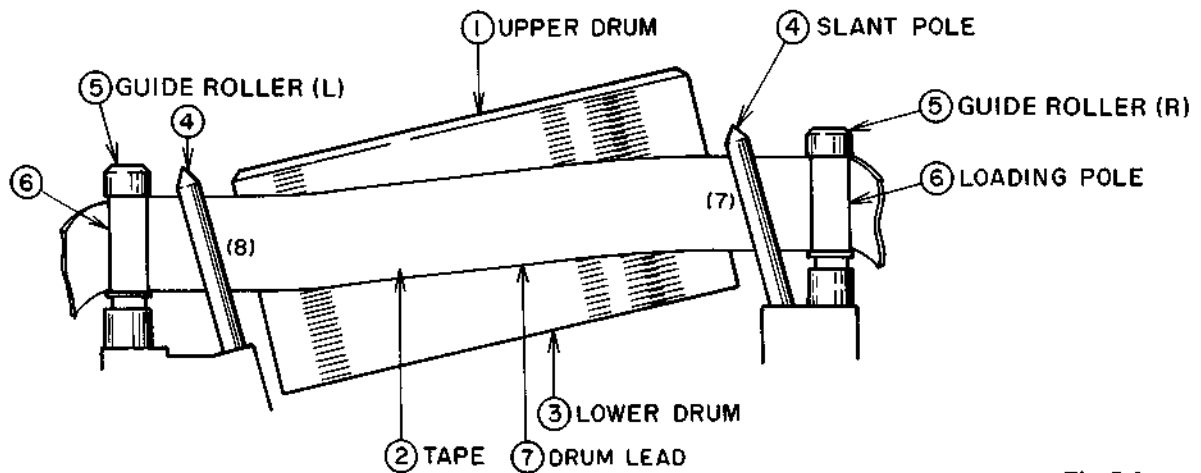
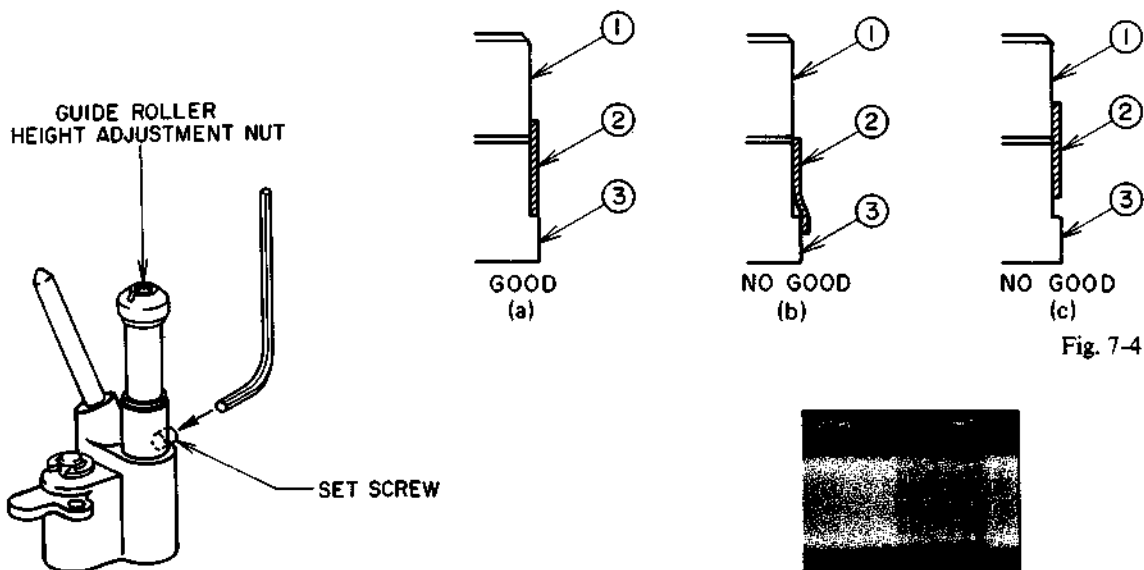
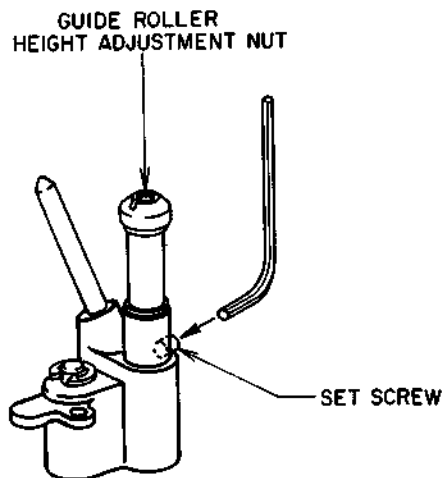
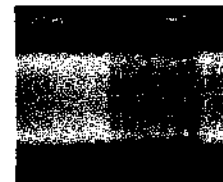

Fig. 7-3
Fig. 7-4
Fig. 7-6
Fig. 7-5
7-3. GUIDE ROLLER HEIGHT ADJUSTMENT (Refer to Fig. 7-3 to Fig. 7-6)
- 1) Slightly loosen the set screw at the lower part of the guide roller so that the guide roller can be adjusted with reasonable tightness (See Fig. 7-6)
- 4) Ensuring it that the oscilloscope shows such a waveform as shown in Fig. 7-5 and also watching the point (7) of Fig. 7-3, adjust the height of the guide roller (R) so that the tape runs without curling as shown in Fig. 7-4 (a).
- 5) Similarly, adjust the height of the guide roller (L) watching the waveform on the oscilloscope and the point (8) of Fig. 7-3.